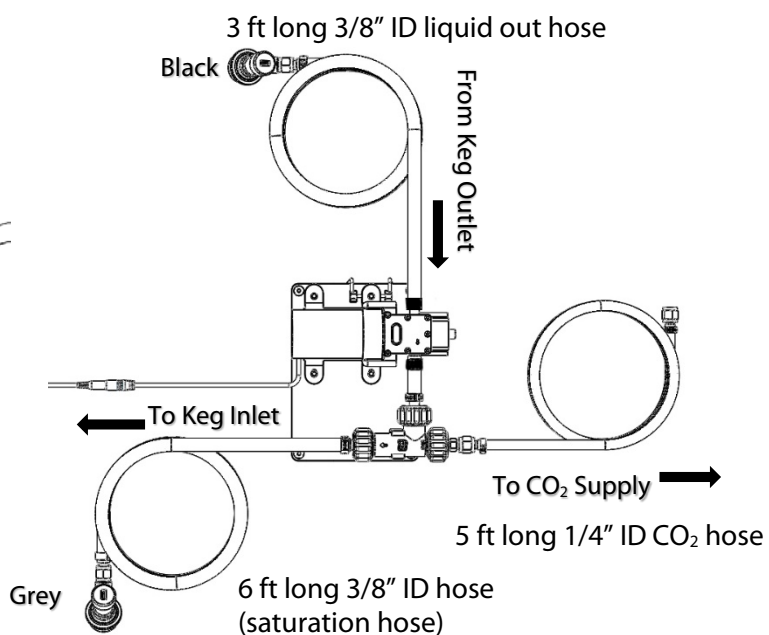

Figure 2.
2. Connect the CO2 Supply hose to CO2 regulator and tighten CO2 supply hose fittings with wrenches (Figure 2).